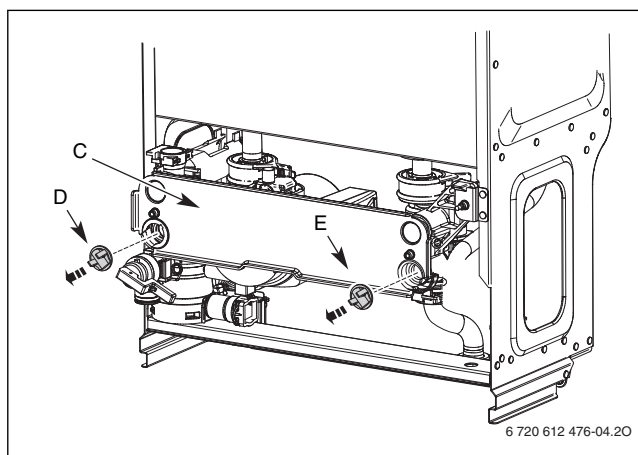

Fig. 4
► Loosen the two retaining screws (B) to free the back clamping plate on the hydraulic block (C) shown in Fig. 4.